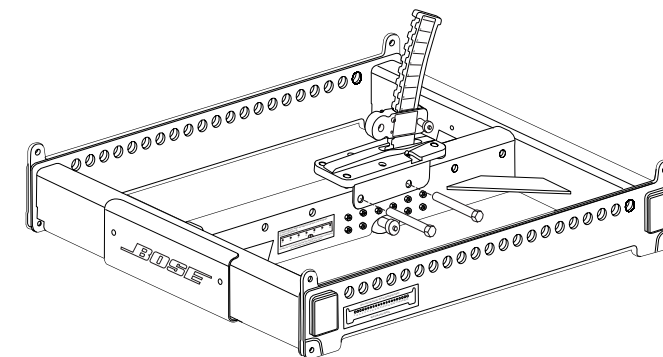

Fig. 6. Ground Stack Bracket on array frame.
- Attach the leveling feet to the bottom of the frame; see Fig. 6. Fully tighten each screw to ensure the feet are level.